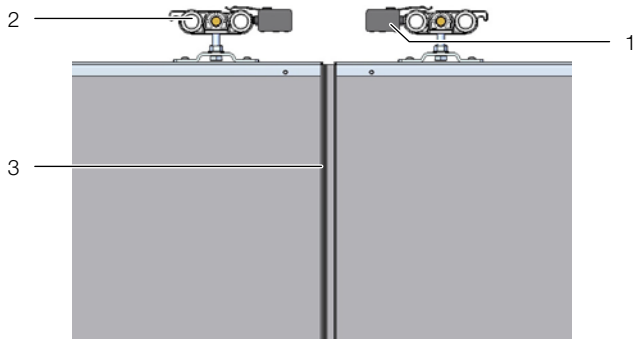

Fig. 23: Door stopper and rolling apparatus inside without self-closing installation location
- For sliding doors **without self-closing**, introduce a door stopper from the left- and the right-hand side in the guide rail so that each "tongue" for stopping the track rollers points outwards (fig. 23).